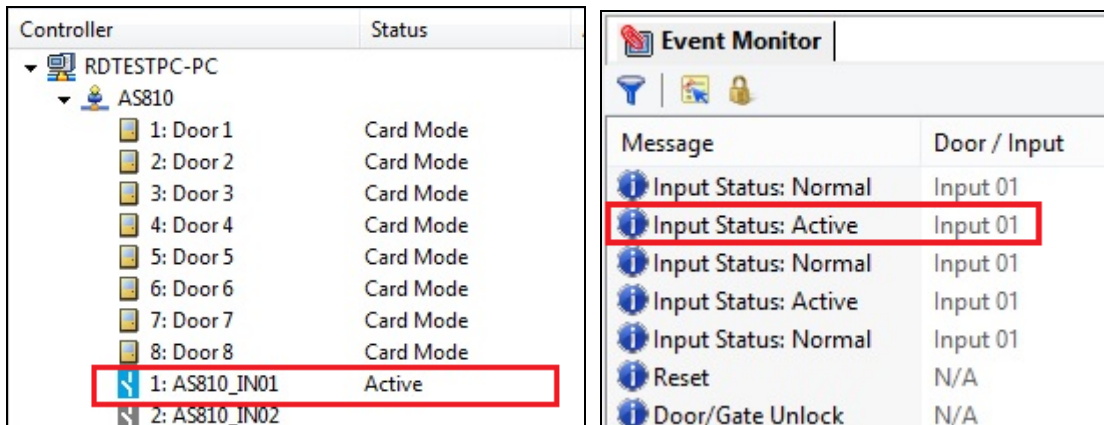

Figure 8-19
4. On the left pane, select input devices to monitor their status in the Controller view window (Figure 8-19).
The inputs will now be listed in the Controller view window (left in Figure 8-19), and the input status will change to “Active” when the emergency exit is opened, triggering the input. The event will also be shown in the Event Monitor.